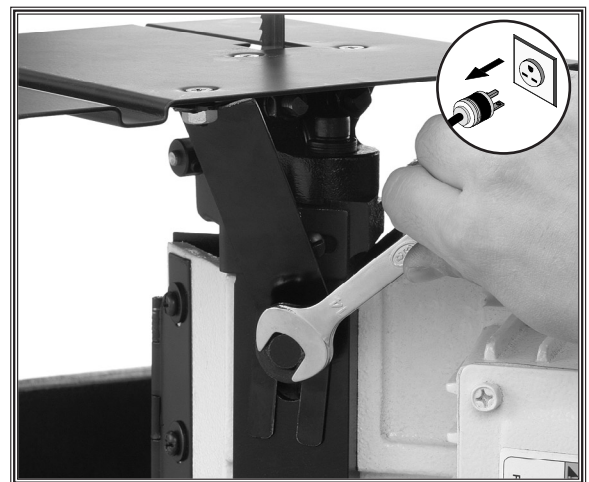

Figure 23. Removing the stop plate.
3. Remove the screws and stop plate as shown in Figure 23.